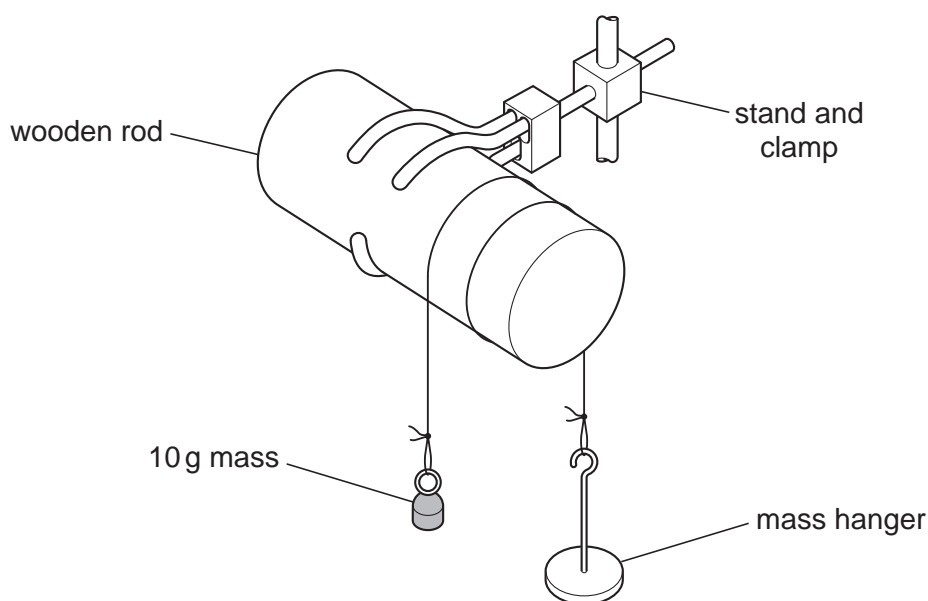

Fig. 2.1
- (c)** Assemble the apparatus as shown in Fig. 2.1.